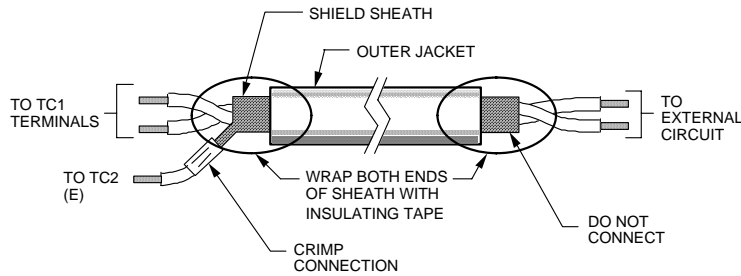

Figure 2-2. Shielded Wire Termination
Figure 2-2. Shielded Wire Termination	2-3
- *Figure 2-2. Shielded Wire Termination*